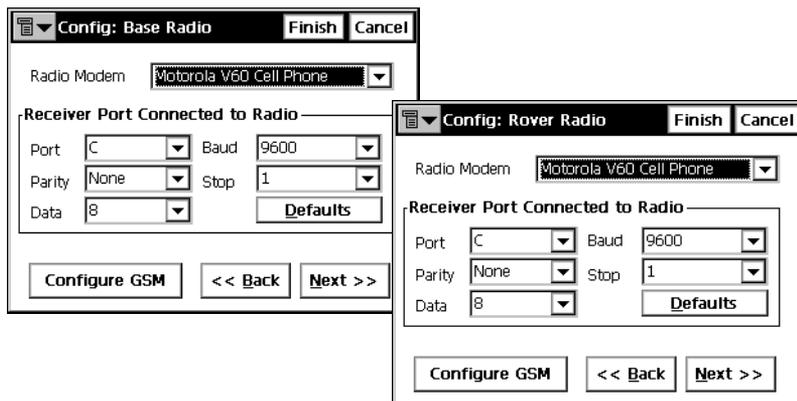

Figure 2-37. Base or Rover Radio Configuration
- On the radio configuration dialog box, select the appropriate GSM radio modem and set the following parameters (Figure 2-37):